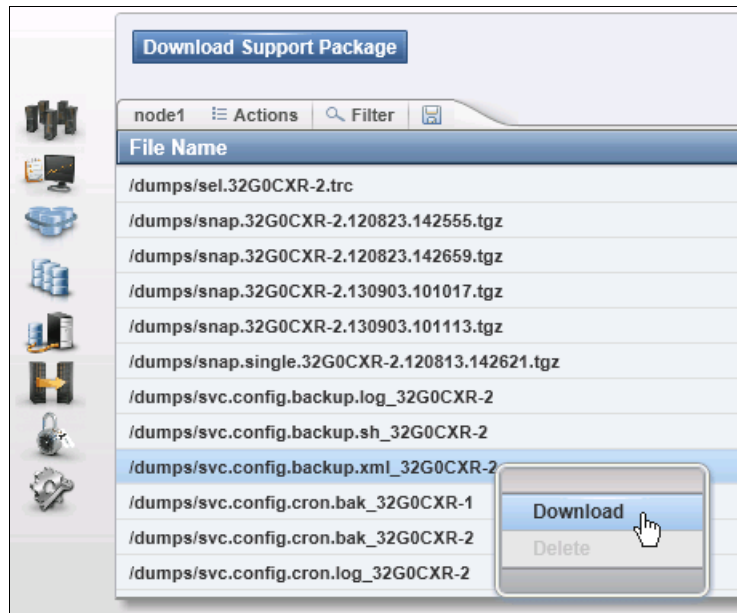

Figure 13-6 Show full log files window
2. The window shown in Figure 13-6 opens. Click **Show full log listing** to show all log files.